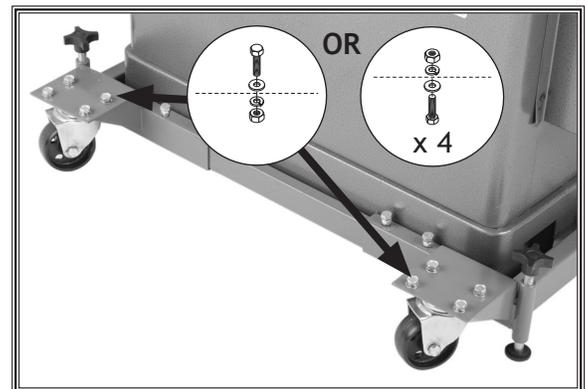

Figure 24. Swivel casters installed.
20. Mount each of the swivel casters to a front corner bracket using (4) M8-1.25 x 16 hex bolts, 8mm flat washers, 8mm lock washers, and M8-1.25 hex nuts, as shown in **Figure 24**.